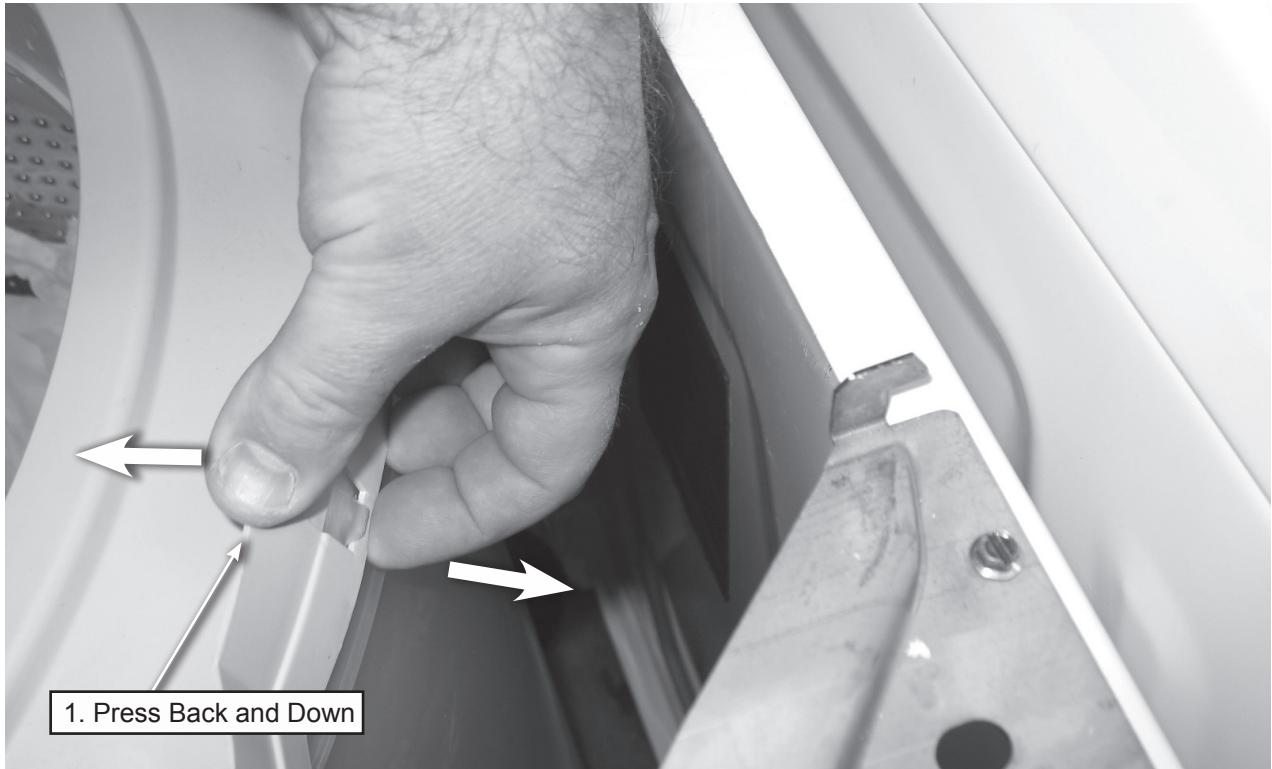

Figure 1
3. To release the tub ring from the tub; first, press back and down on the top of the tub ring to reduce pressure on the keyed locking tab, then release the tab, see figure 1.